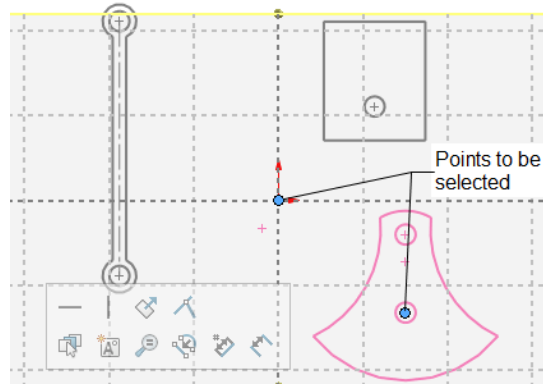

Figure 2-32 Points to be selected to apply the relation
1. Press and hold the CTRL key, and then select the center of the lower circle of the **Crank** and the origin, as shown in Figure 2-32; the **Properties PropertyManager** is displayed.